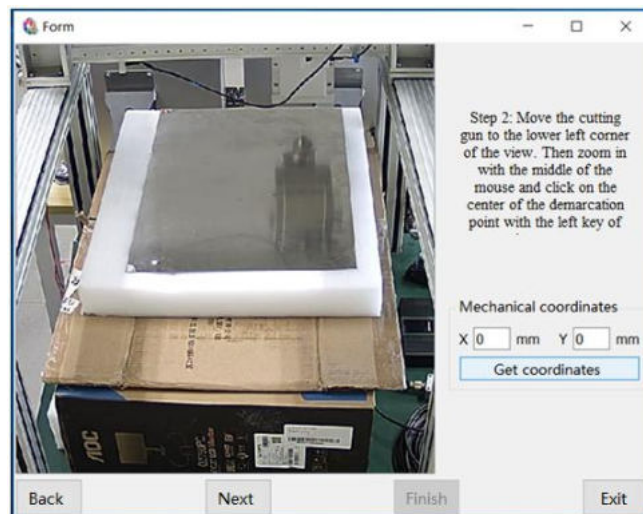

Figure 13.3 Get the first coordinate point
- Click "next step", start the camera calibration, operation machine will move the gun to the upper left corner of the view, then enlarge the image through the mouse button, click the center of the mouse button "get coordinates" button, mechanical coordinates X, Y coordinates is corresponding to CNC cut gun coordinate point, the first calibration point complete calibration, as shown in Figure 13.3: